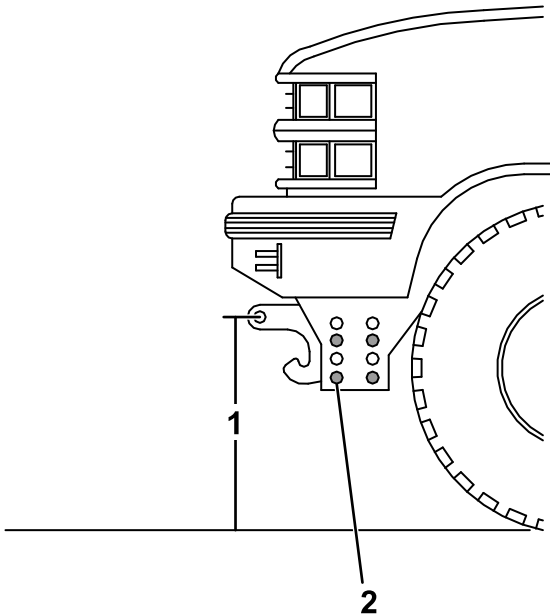

Figure 26
- Measure the distance from the ground to the coupler spring-pin holes on the undercarriage pushbeam (Figure 26). The distance should be 36.8 cm (14-1/2 inches).
- If the pushbeam is not at 36.8 cm (14-1/2 inches), remove the fasteners securing the pushbeam to the undercarriage (Figure 26).